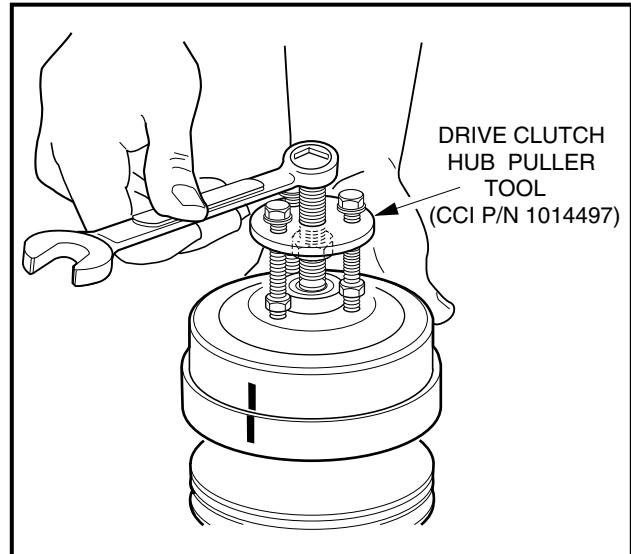

Figure 17-6 Remove Clutch Drive Hub
- 2.2. Thread the center bolt of the Drive Clutch Hub Puller (CCI P/N 1014497) into clutch until the stop nut touches the clutch hub or the bolt bottoms out, then back the bolt out one-half turn (Figure 17-6, Page 17-7).
- 2.3. Thread the three small bolts of the puller into the puller attachment holes in the clutch. Tighten bolts evenly, making sure the face of the puller plate is parallel to the clutch face (Figure 17-6, Page 17-7).